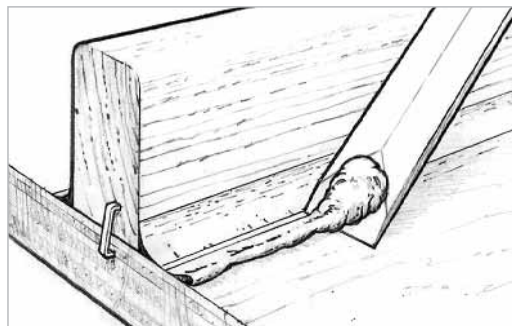

Figure 5-13 Clean up remaining excess epoxy outside of the clean margin before it cures.
3. Clean up the remaining excess material outside of the margin by using a sharpened mixing stick or a putty knife (*Figure 5-13*). Fiberglass cloth or tape may be applied over the fillet area before the fillet has cured (or after the fillet is cured and sanded).